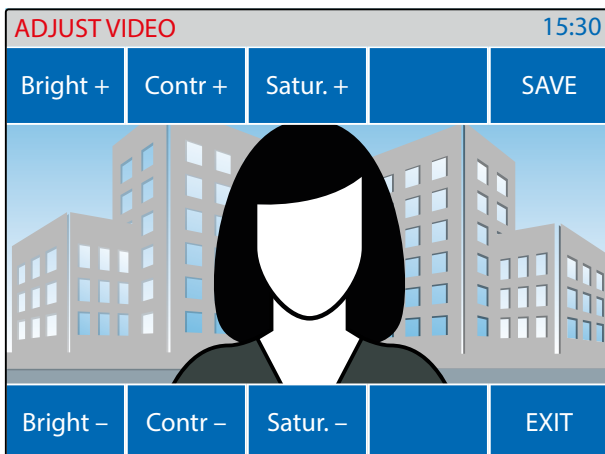

Fig. 21 Adjust the video for the selected door panel
- Select the door panel to connect to then tap the tick button to open the communication (Fig. 21).
- Once a good video quality is obtained, tap on the save button to confirm (Fig. 21).